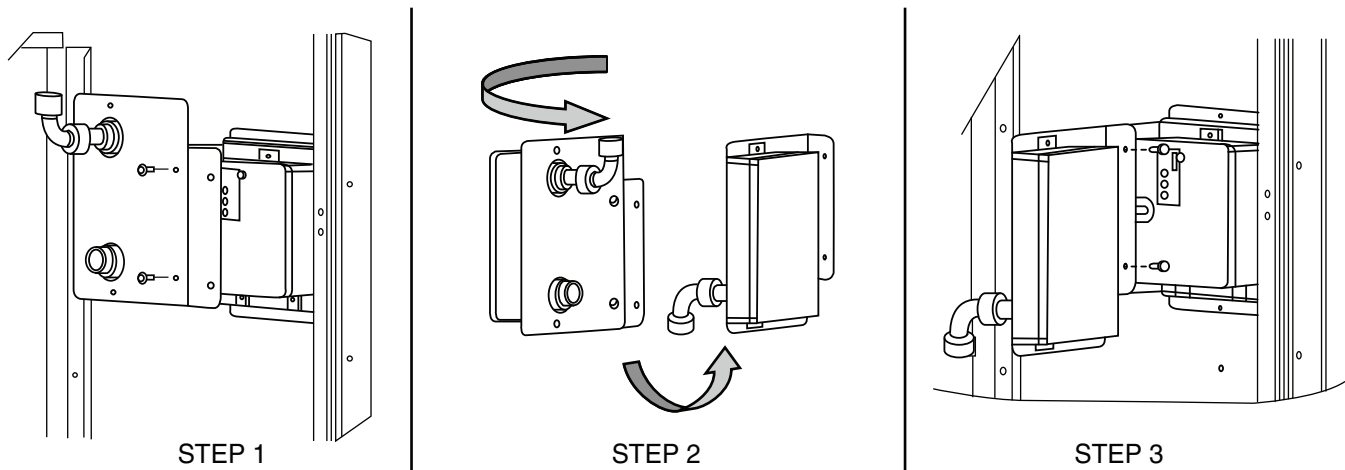

Fig. 44 — Completing Installation of Return Air Smoke Sensor
1. Unscrew the two screws holding the Return Air Smoke Detector assembly. See Fig. 44, Step 1. Save the screws.
2. Turn the assembly 90 and then rotate end to end. Make sure that the elbow fitting is pointing down. See Fig. 44, Step 2.
3. Screw the sensor and detector plate into its operating position using screws from Step 1. See Fig. 44, Step 3.